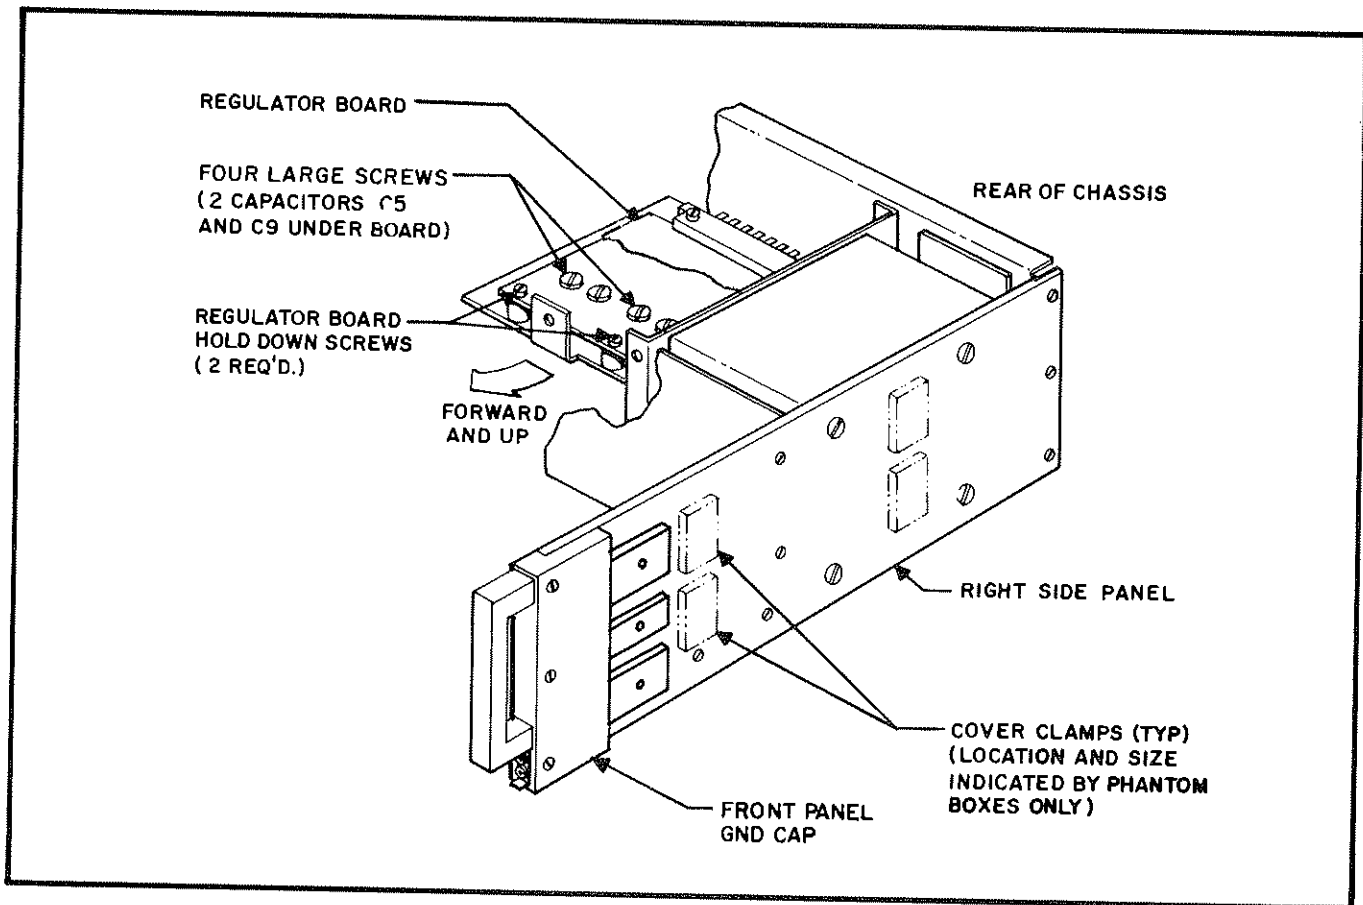
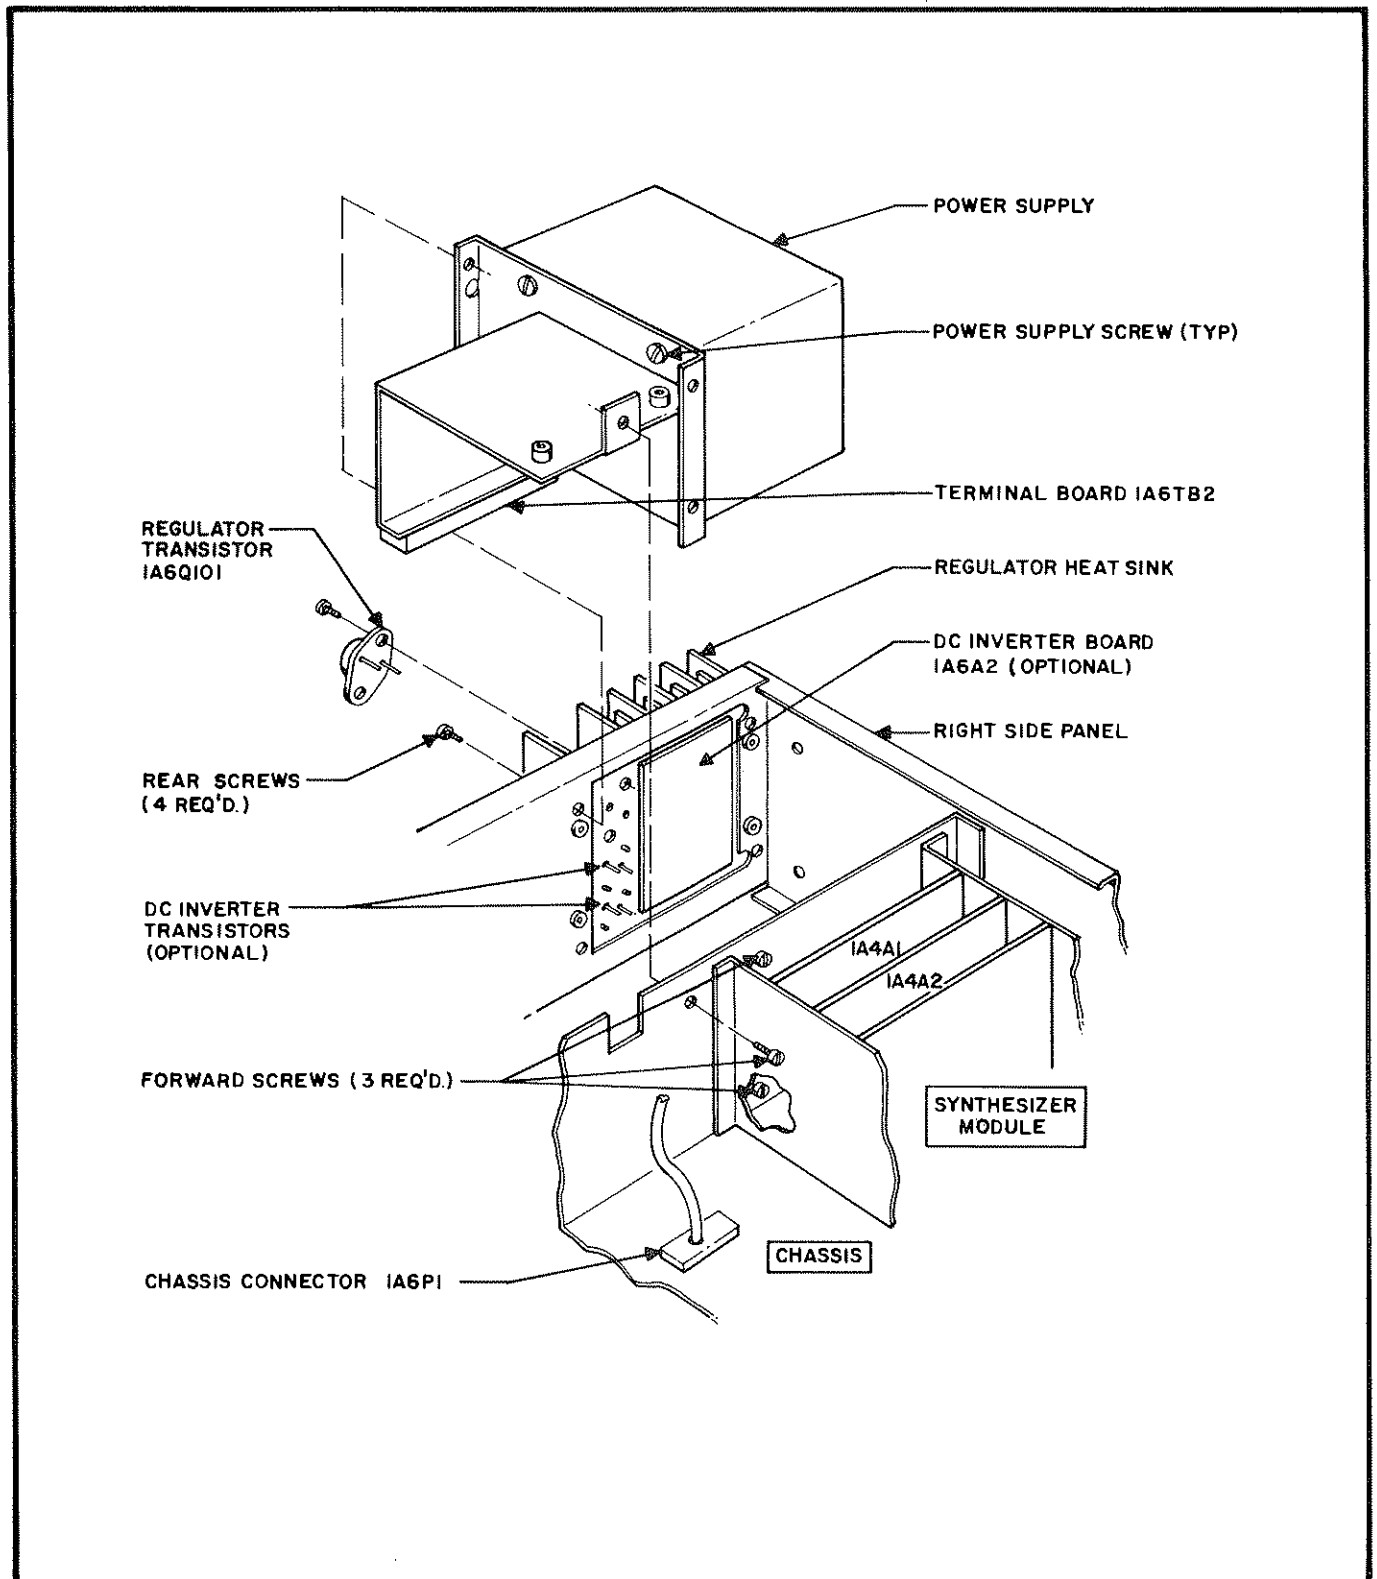

Figure 5.2 Power Supply Regulator Board (1A6A1)
Figure 5.3 Power Supply Removal (1A6)
- 5.8.3.2 To remove Regulator board (1A6A1), take out four large screws holding two capacitors (1A6A1-C5 and C9) as shown in Figure 5.2. Next, unfasten two hold down screws and pull the board forward and slightly upward to remove.
- 5.8.3.3 To take out the entire power supply from the chassis, remove only the screws, shown in Figure 5.2, from the RIGHT SIDE PANEL. DO NOT remove the cover clamps and their associated hardware. Unplug the connector, 1A6P1, from the chassis as illustrated in Figure 5.3. Re-